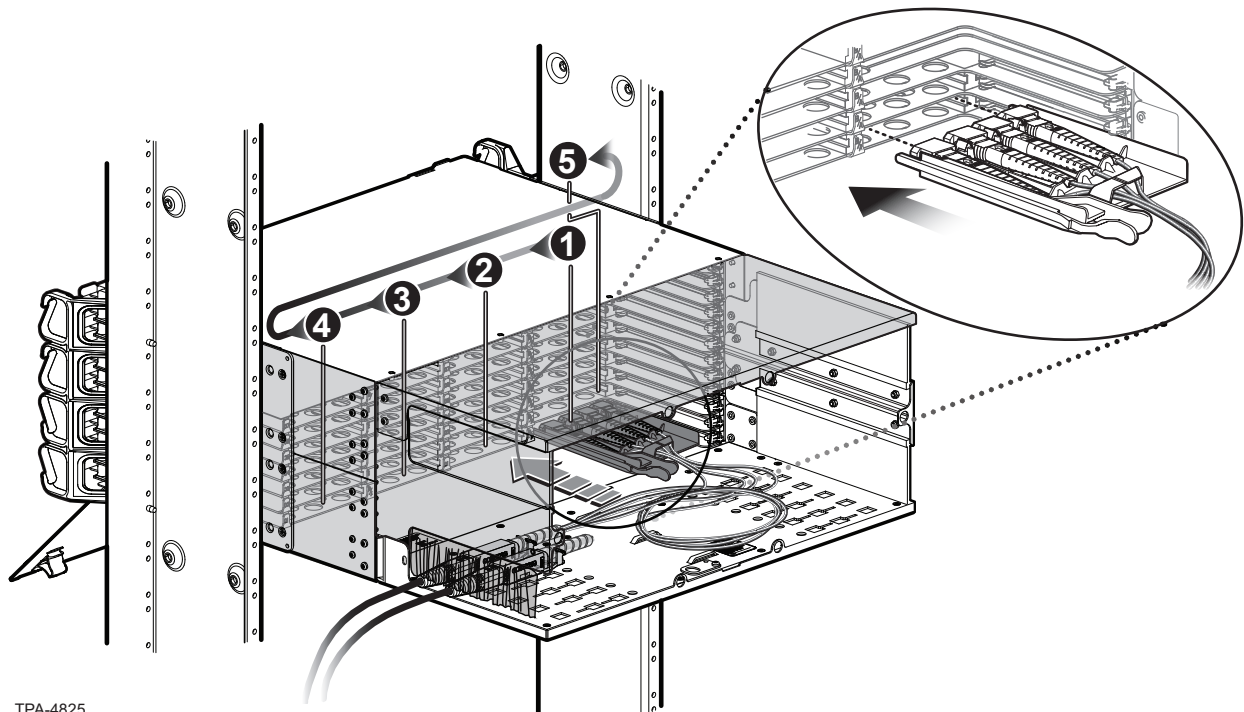

Figure 22 — Insert Adapter Panels into Rear of Housing
**Step 4:** With a panel fully populated, insert panel from the rear until it locks into place (Figure 22).